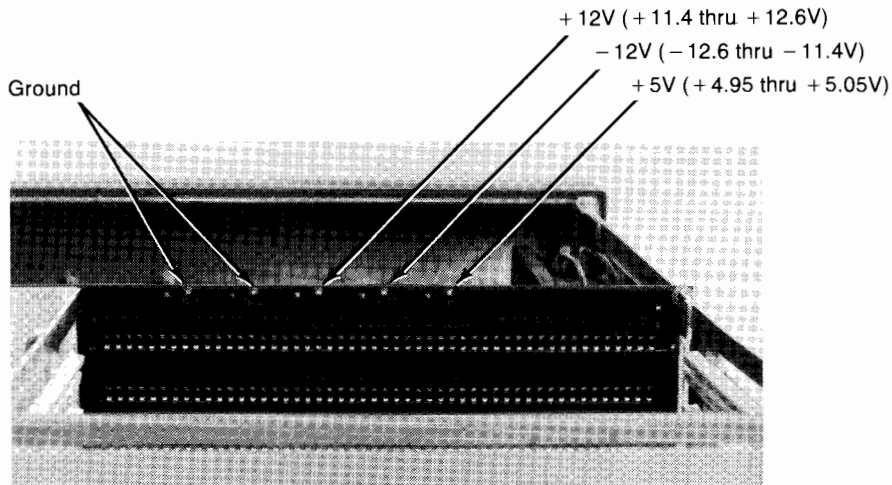

Figure 3-2. Backplane Test Points
3. Install the power cord and turn the expander on. If the fan still does not run, check the backplane test points located at the top of the backplane board (see figure 3-2). If the voltages are present, suspect the fan to be defective.